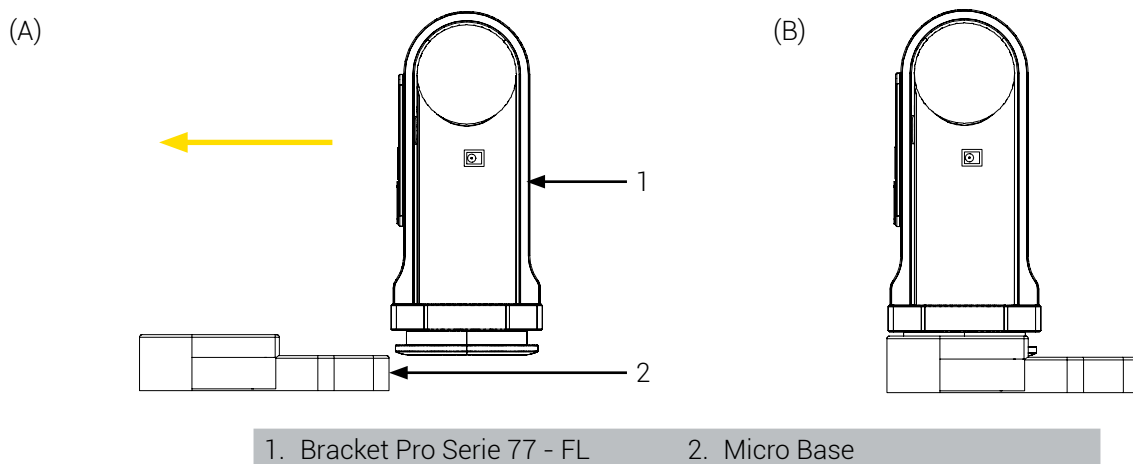

Figure 2: Installing the Bracket Pro Serie 77 - FL on a Micro Base
1. Align the bottom micro disc with the Micro Base opening (Figure 2 A).
2. Insert the disc completely into the base (Figure 2 B), until you hear the click sound of the quick release mechanism engaging.